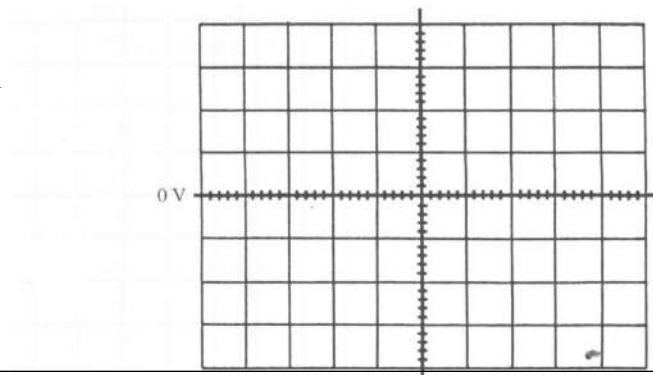

Figure 1-1
2. Draw the waveform on Fig. 1.1, carefully noting the required number of horizontal and vertical divisions. Add vertical and horizontal dimensions to the waveform using the chosen sensitivities listed above.